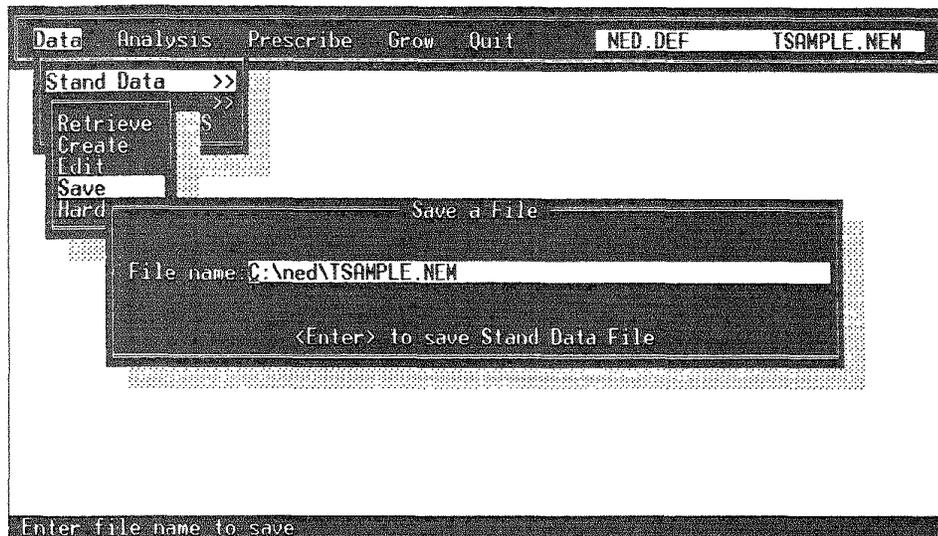

Figure 12. -- Save a File window.
**Operation:** When you have finished creating or editing a stand data file, you **MUST** save it to a disk file by selecting Save from the Stand Data menu. The "Save a File" window (Fig. 12) will appear specifying the current drive, path, and file name. If you have been editing an existing file, the file name that you have edited will appear in this window. If the file is a new data file that you have created, a default name **DATAFILE.NEM** will appear in this window. You may edit the file name by pressing **F2** to put you into the edit mode. Move the cursor using the arrow keys to the name and begin typing the new name in that field. Then press **F10** to save the file. **NOTE: Use the extension .NEM for all NED/SIPS stand data files.**